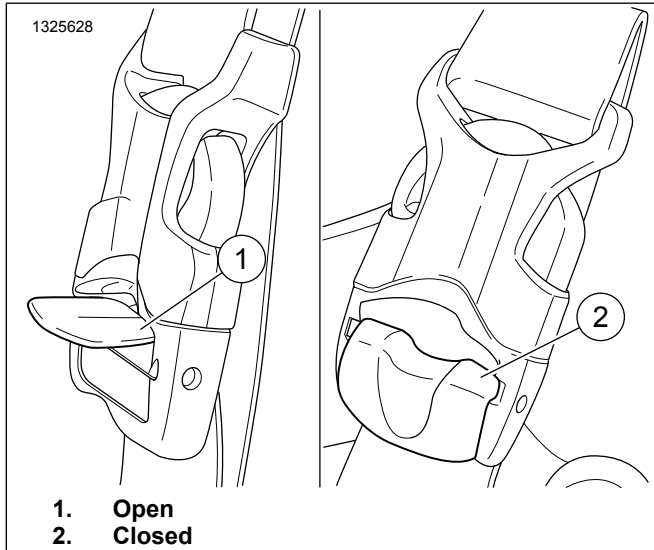

Figure 4. Open/Close Clasp
5. See Figure 4. Close clasp to secure strap tightness.